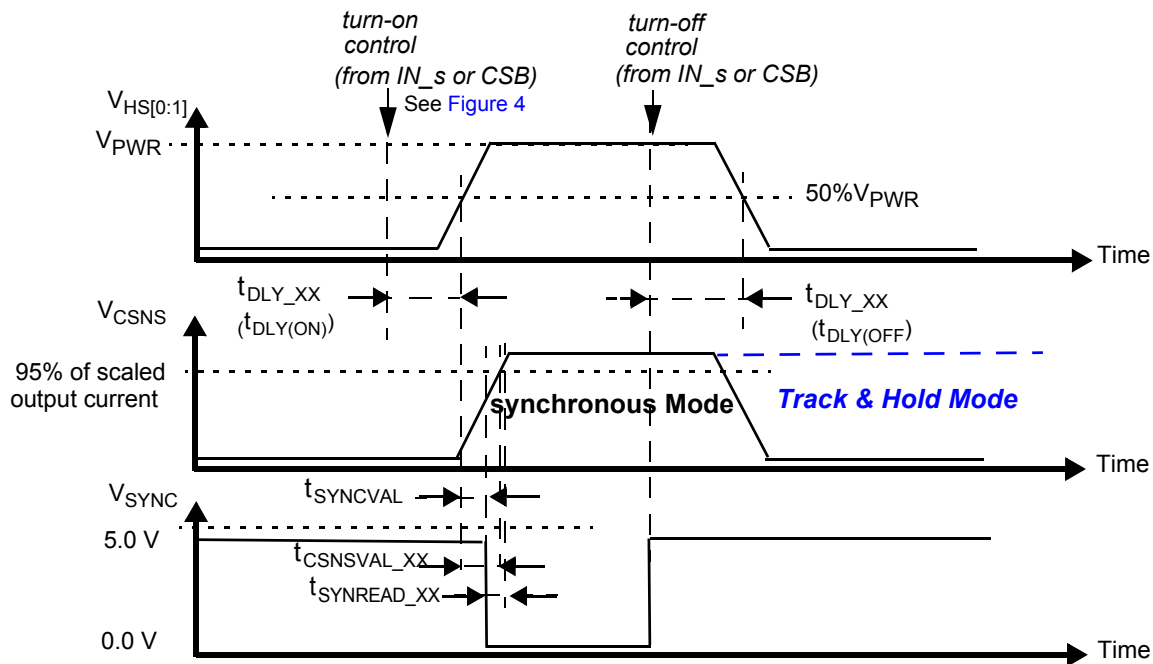

Figure 9. Synchronous & Track-and-Hold Current Sensing Modes: Associated Delay & Settling Times
30. Time required to switch off the channel after detection of overtemperature (OT), overcurrent (OC), SC or UV error (time measured between start of the negative edge on the FSB pin and the falling edge on the output voltage until $V(HS[0:1]) = 50\%$ of V_{PWR}).
31. Settling time (= $t_{CSNSVAL_XX}$), SYNC output signal delay (= $t_{SYNCVAL_XX}$) and Read-out delay (= $t_{SYNREAD_XX}$) are defined for a stepped load current ($100\text{ mA} < I(\text{LOAD}) < I_{OCLX_A}$ FOR $CSNS_RATIO_S = 1$, AND $300\text{ mA} < I(\text{LOAD}) < I_{OCLX_A_0}$ FOR $CSNS_RATIO_S = 0$). (see Figure 9 and Output Current Monitoring \(CSNS\))
The CS pin allows independent current monitoring of channel 0 or channel 1 up to the steady-state overcurrent threshold. It can also be used to sense the device temperature. The different functions are selected by setting bits CSNS1_en and CSNS0_en to the appropriate value (Table 23). When the CSNS pin is sensed during switch-off in the (optional) track & hold mode (see Figure 9), it outputs the scaled value of the load current as it was just before turn-Off. When several devices share the same pull-down resistor, the CSNS pins of devices the current of which is not monitored must be tri-stated. This is accomplished by setting CSNS0_en = 0 and CSNS1_en = 0 in the GCR register (Table 10). Settling time ($t_{CSNSVAL_XX}$) is defined as the time between the instant at the middle of the output voltage's rising edge ($HS[0:1] = 50\%$ of V_{PWR}), and the instant at which the voltage on the CSNS-pin has settled to $\pm 5.0\%$ of its final value. Anytime an overcurrent window is active, the CSNS pin is disabled (see Overcurrent Detection on Resistive and Inductive Loads). The current and temperature sensing functions are unavailable in Fail-safe mode and in Normal mode when operating without the V_{DD} supply voltage. In order to generate a voltage output, a pull-down resistor is required ($R(CSNS)=1.0\text{ k}\Omega$ typ. and $470 < R(CSNS) < 10\text{ k}$). When the current sense resistor connected to the CSNS pin is disconnected, the CSNS voltage is clamped to $V_{CL(CSNS)}$. The CSNS pin can source currents up to about 5.6 mA.
To synchronize current sensing with an external process, the SYNC signal can be connected to a digital input of an external MCU. SYNC is asserted logic low when the current sense signal is accurate and ready to be read. The current sense signal on the CSNS pin has the specified accuracy $t_{SYNCREAD_XX}$ seconds after the falling edge on the SYNC pin (Figure 9) and remains valid until a rising edge is generated. The rising edge that is generated by the SYNC pin at the turn-OFF instant (internal or external) may also be used to implement synchronization with the external MCU. Parameter $t_{SYNCVAL_XX}$ is defined as the time between the instant at the middle of the output-voltage rising edge ($HS[0:1] = 50\%$ of V_{PWR}), and the instant at which the voltage on the SYNC-pin drops below 0.4 V (V_{SOL}). The SYNC pins of different devices can be connected together to save μ -controller input channels. However, in this configuration, the CSNS function of only one device should be active at a time. Otherwise, the MCU does not determine the origin of the SYNC signal. The SYNC pin is open drain and requires an external pull-up resistor to VDD.